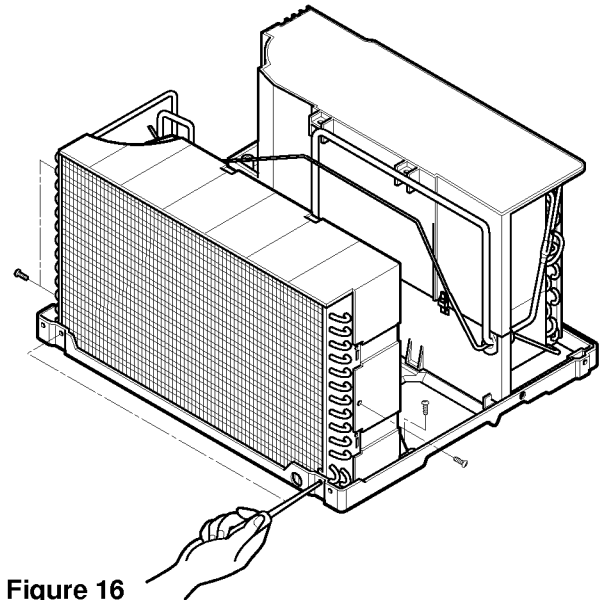

Figure 16
6. Re-install the component by referring to notes. (See figure 16)